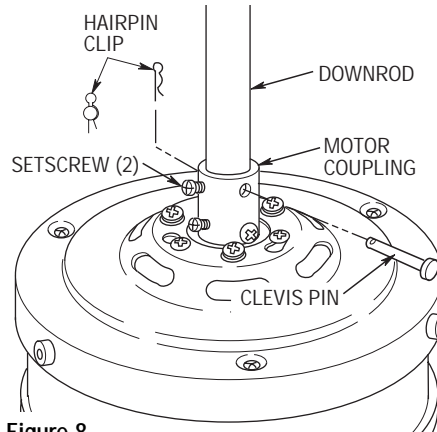

Figure 8
- 11. Unscrew the two upper setscrews (Figure 8) until they clear the inside of the motor coupling. Then separate, untwist and unkink the three 80" motor leads. Route the motor lead wires through the downrod. Align the clevis pin holes in the downrod with the holes in the motor coupling. Install the clevis pin and secure with the hairpin clip (Figure 8). The clevis pin must go through the holes in the motor coupling and the holes in the downrod. Be sure to push the straight leg of the hairpin clip through the hole near the end of the clevis pin until the curved portion of the hairpin clip snaps around the clevis pin. The hairpin clip must be properly installed to prevent the clevis pin from working loose. Pull up on the downrod to make sure the clevis pin is properly installed.
It is critical that the clevis pin in the motor coupling is properly installed and the setscrews securely tightened. Failure to verify that the pin and setscrews are properly installed (as shown in Figure 8) could result in the fan falling.
- 12. Tighten the setscrews (Figure 8) securely while pulling up on the downrod.